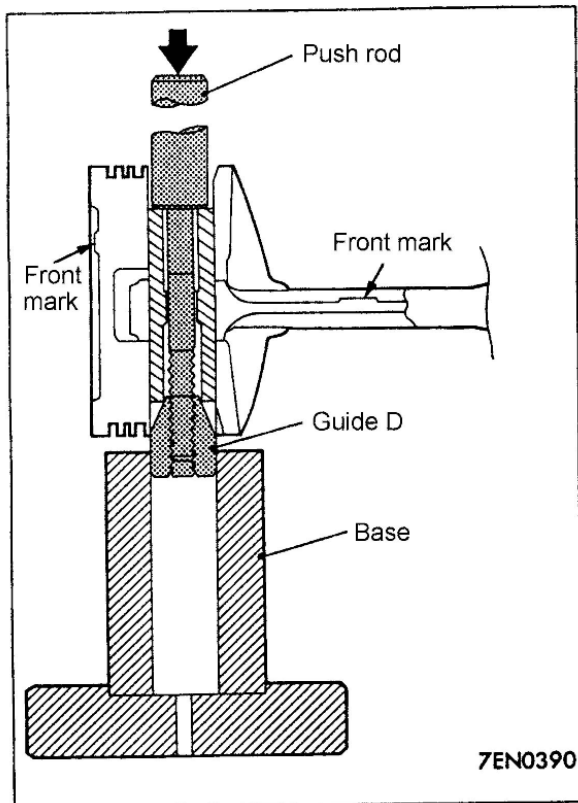

Fig.4-46
- (1) Insert the push rod (special tool) from the front arrow mark side, then fit guide D, see Fig.4-46.
- (2) Mount the piston and connecting rod assembly on the piston pin setting base (special tool) with the piston's front mark pointing upward.
- (3) Remove the piston pin using a press.